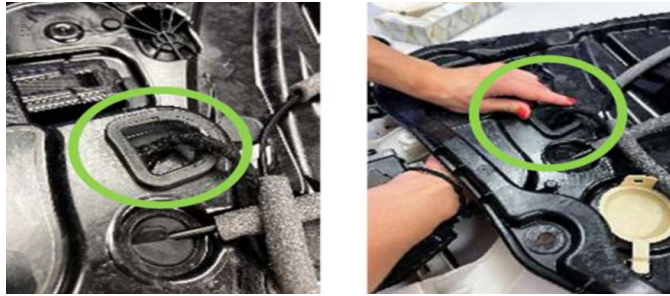

Fig. 13
15. Pop out the D grommet by pushing from the wet side of the carrier plate and pull all the extra wires from the wet side to the dry side through that grommet hole Fig. 13.